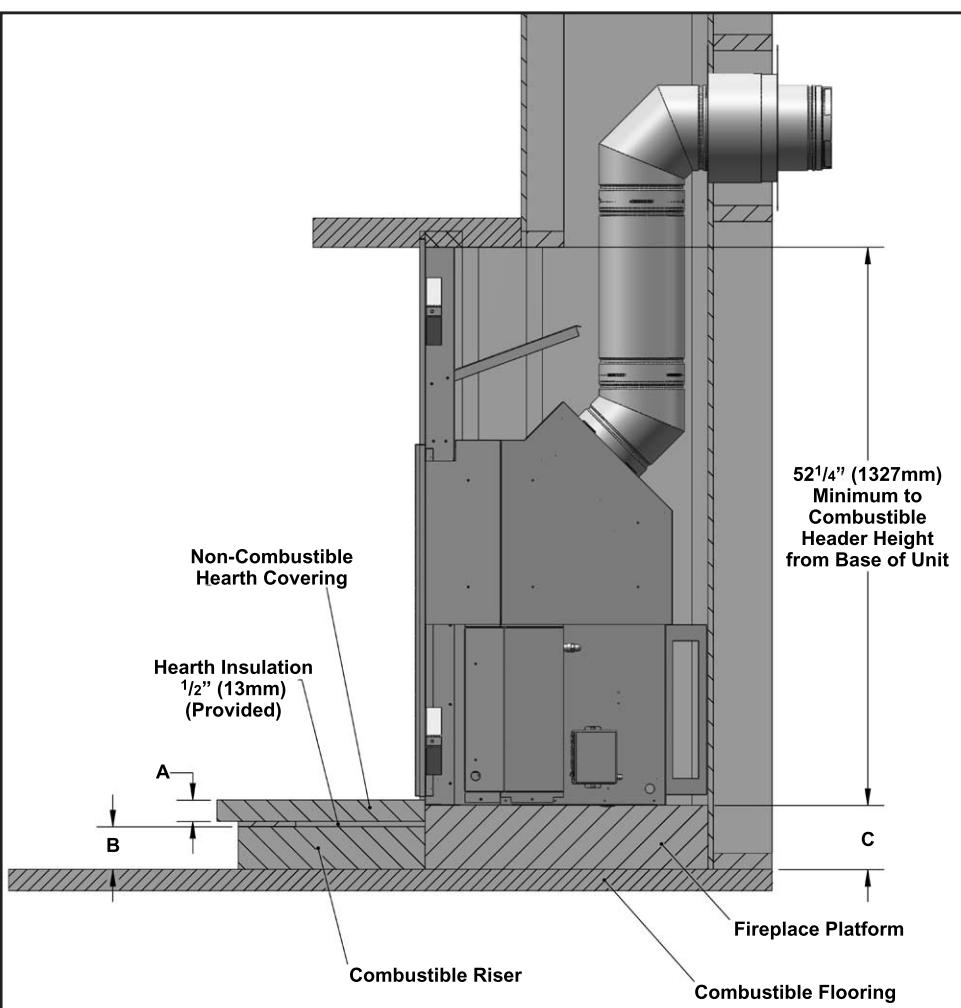

Figure 14. Typical Framing for a Raised Hearth - Detailed.
Figure 14 shows a raised hearth made of a wooden construction hearth riser (B), covered with the insulation board provided and then covered with non-combustible slate (A). The thickness of the riser (B) is 4" (102mm). The thickness of the slate (A) is 2" (52mm). A+B=C which is 6" (152mm). In summary, the fireplace must be raised by the same thickness of any material added in front of the fireplace, with exception of the 1/2" (13mm) Hearth Insulation Board that was provided with the unit.